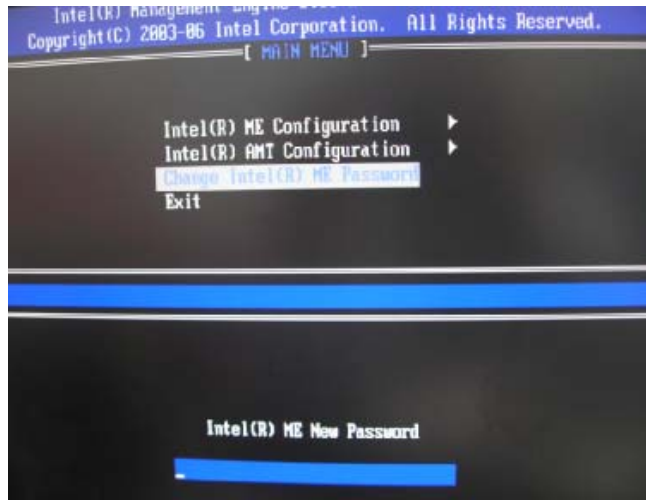

Figure 8-3: Change Intel® ME Password
- Step 3:** To change the password, select **Change Intel® ME Password**. Enter a new password following the strong password rule (containing at least one upper case letter, one lower case letter, one digit and one special character, and be at least eight characters). (**Figure 8-3**)